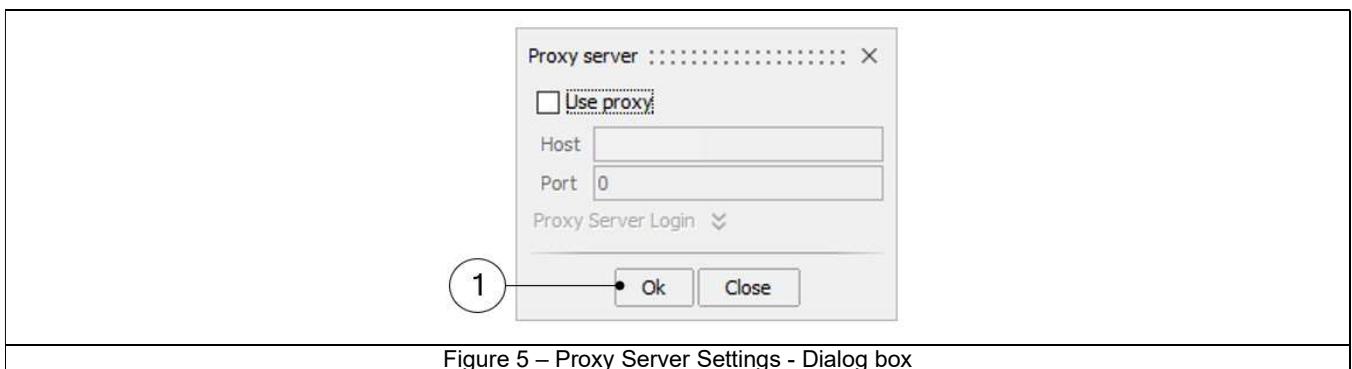

Figure 5 – Proxy Server Settings - Dialog box
- 6) Click on the OK button (Mark 1 - Figure 5 – Proxy Server Settings - Dialog box). The status will change to Activated when the license is validated, or you will receive an error message if unsuccessful.